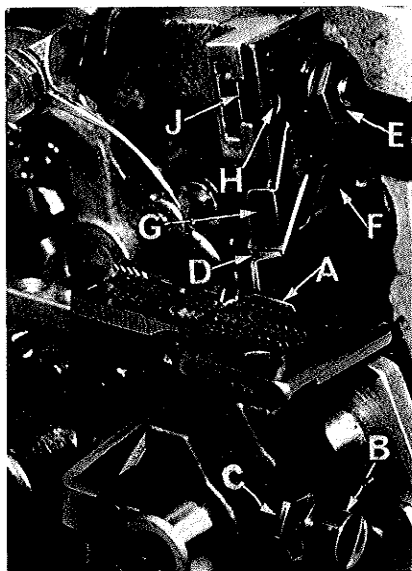

Fig. 14
Replace lower knife holder assembly. Lower knife (A, Fig. 14) should be set with cutting edge flush with throat plate surface. Adjustments are made with hexagonal head screw which holds lower knife. Lower knife is spring pressed against upper knife, so no lateral adjustment is necessary when width of trim is changed.
Replace upper knife assembly. Clamp upper knife (D, Fig. 14) in position, setting nut (E) to hold clamp (F) in its most clockwise position against upper knife. Upper knife chain guard (G) should be positioned so that the guarding section is approximately  $1/64$  inch (.40 mm) behind the cutting edge and in contact with the top surface of the upper knife.